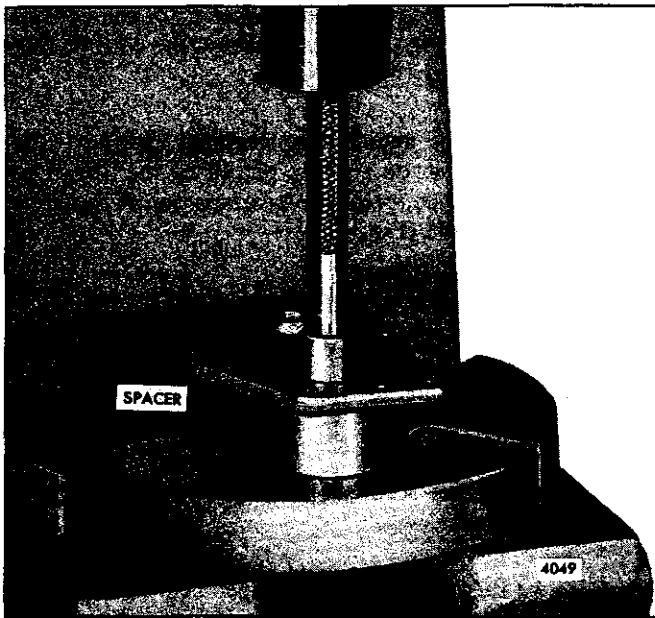

Fig. 5 – Removing Governor Cover Bearing Using Tool J 21967-01
10. If the bearings are to be removed, place the governor cover on an arbor press and press them out with bearing remover J 21967-01 (Fig. 5).